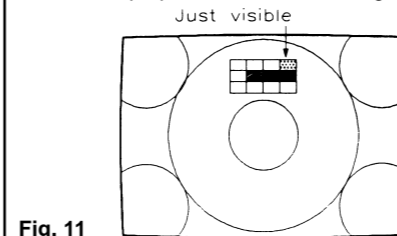

Fig. 11
3. Adjust SUB-BRIGHTNESS (VR305) to get NINE step of the grey scale just illuminate in monoscope pattern as shown in Fig 11.